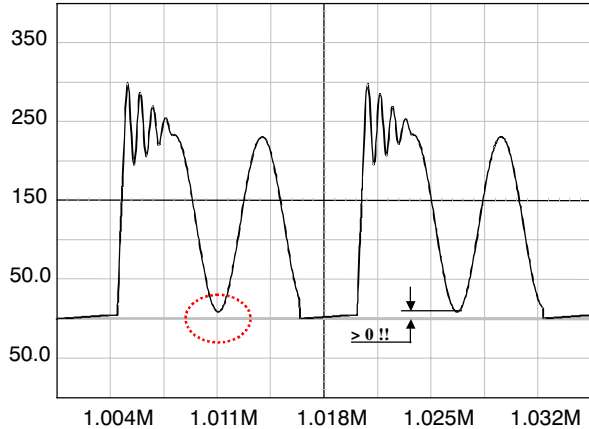

Figure 45. The reflected voltage shall always be greater than the minimum input voltage to avoid the forward biasing of the MOSFET body-diode.
1. The lateral MOSFET body-diode shall never be forward biased, either during startup (because of a large leakage inductance) or in normal operation as shown by Figure 45. This condition sets the maximum voltage that can be reflected during t_{off} .